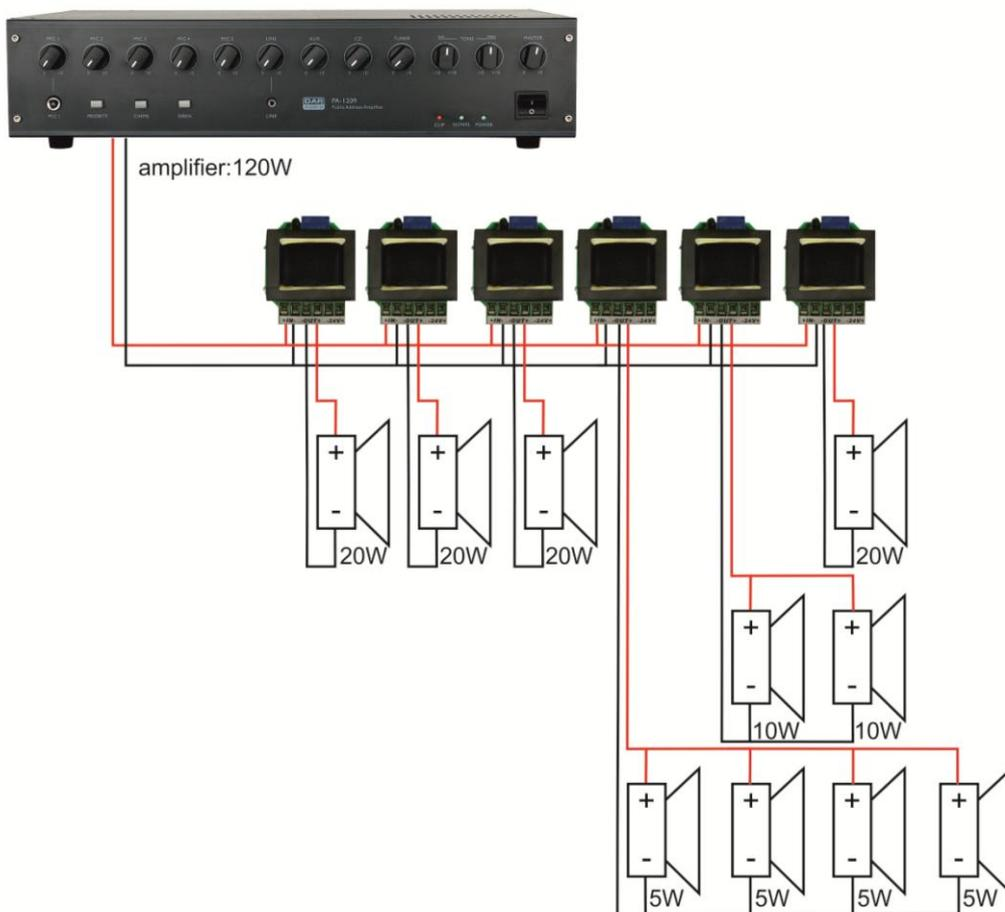

Fig. 3
- **Make sure that when using several volume controllers at a single amplifier output as in the setup example (fig. 3), the total speaker power never exceeds the maximum power of the amplifier!**